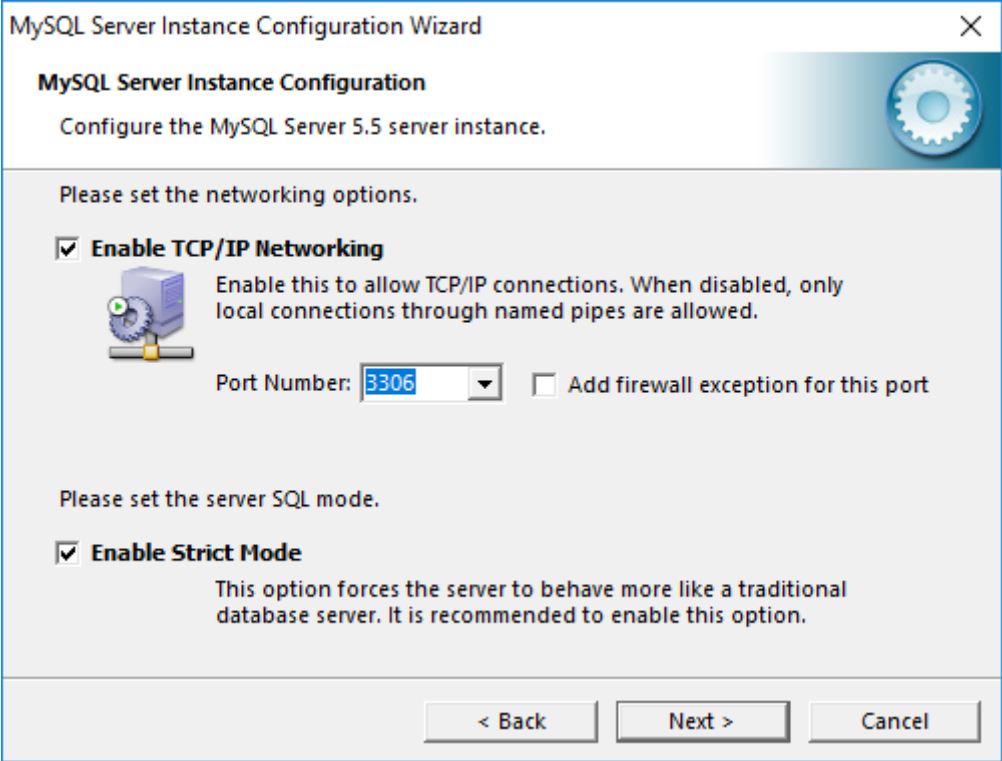

Figure A13
7. Ensure "Enable TCP/IP Networking" is selected and the port is set to "3306". Also ensure "Enable Strict Mode" is selected. Click "Next". (Figure A13)